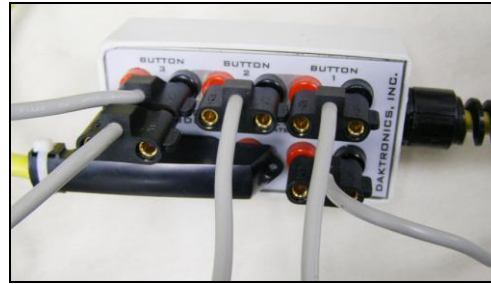

Figure 182: Plug RTOP into Lane Module
- Attach both straps on each side by placing the loose end into the end with the cam buckle. Once inserted into the cam buckle, pull loose end until platform is snug on the block. Make sure there are no twists in the strap and that the electronics box is flat against the bottom of the starting block. Tie the excess strap up so that it is not hanging in the water that splashes up on the pool deck (*Figure 182*). Refer to **Drawing A-268945** to correctly mount the RTOP.